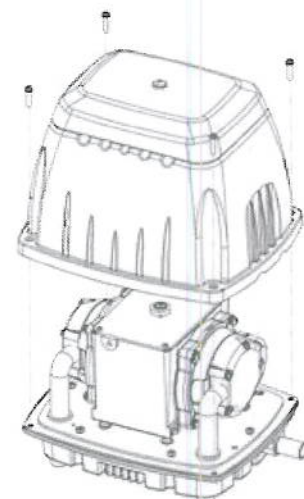

Figure 2
- G. Loosen the four screws around the aluminum upper housing, and take the housing off. (As shown in figure 2)